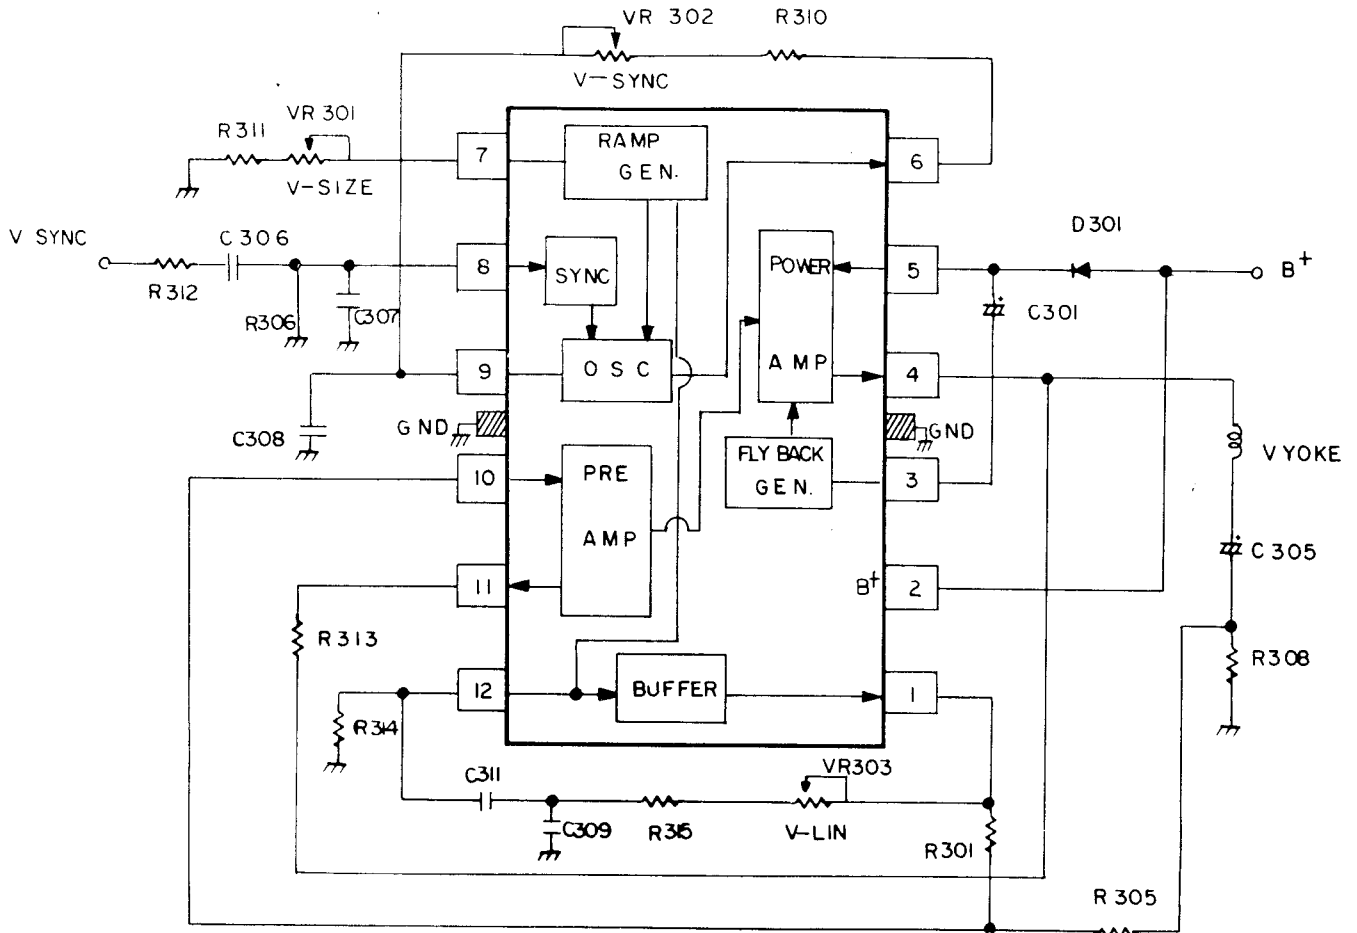

Figure 14. Schematic Diagram of IC301.
*The Schematic diagram of IC301 is same as figure 14.